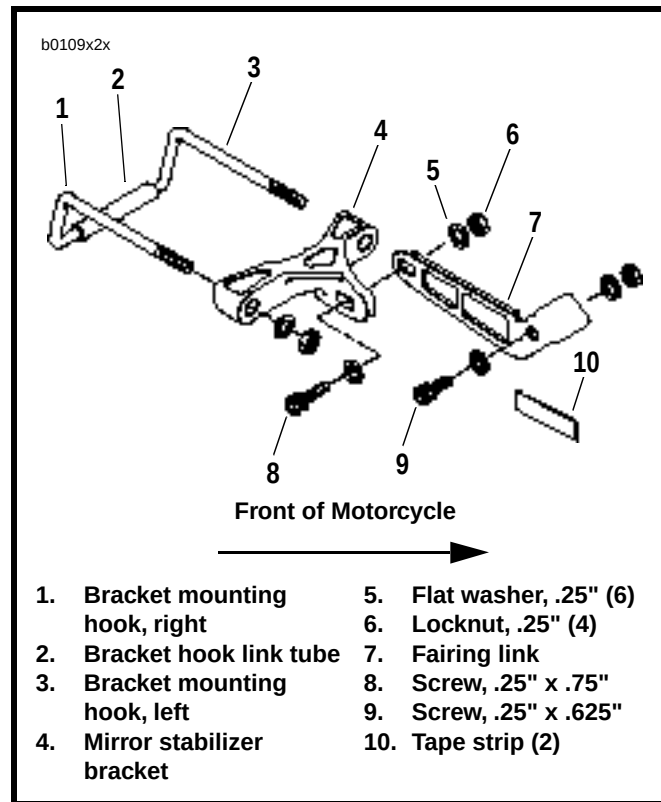
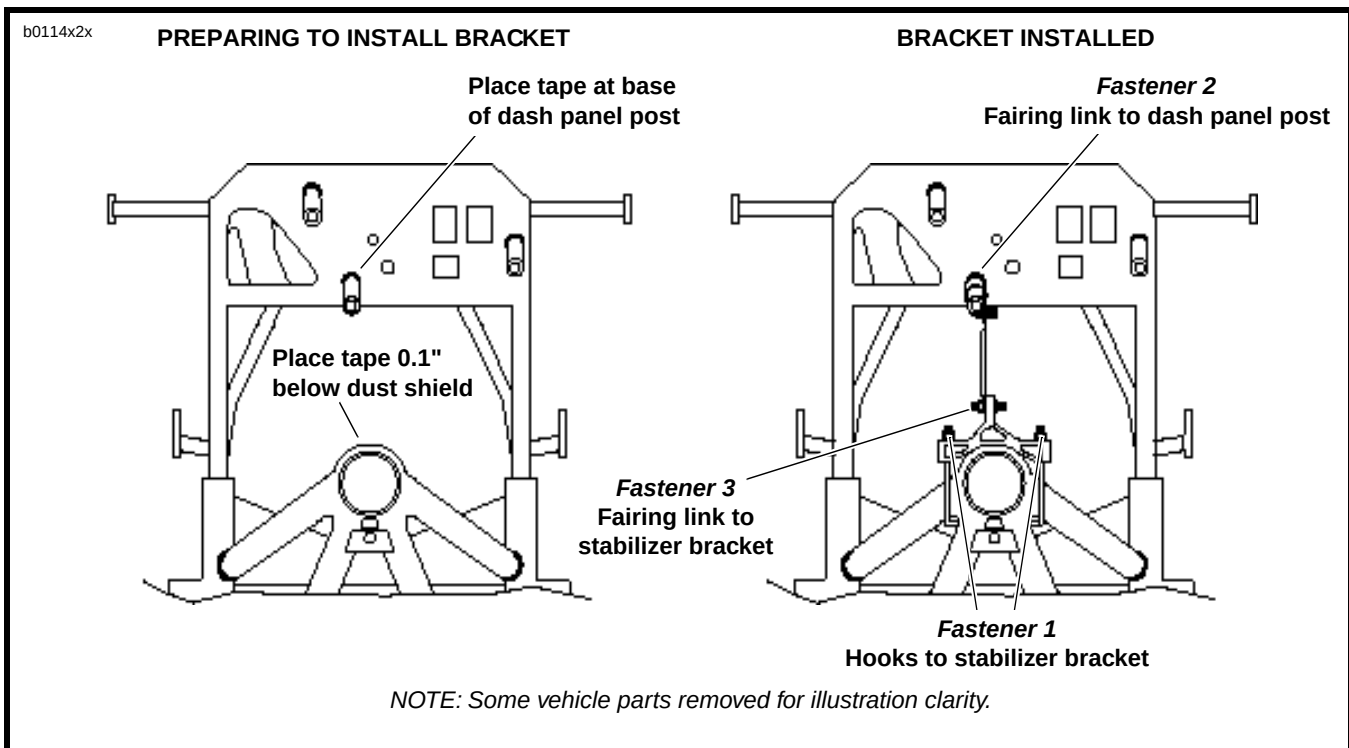

Figure 3. Kit Contents
Figure 2. Mirror/Instrument Panel Stabilizer Installation
4. See Figure 2. Remove any dirt or grease from front of steering stem and fairing mount. Install tape strips as shown.
5. See Figure 3. Place bracket hook link tube (2) on left bracket mounting hook (3). Slide link tube and left bracket mounting hook under motorcycle frame tubes as shown in Figure 2.
6. Install right bracket mounting hook (1) to complete assembly. Do not pinch fuel tank vent hose.
7. Place mirror stabilizer bracket (4) over right and left bracket mounting hooks (1, 3). Loosely install one flat washer (5) and locknut (6) on each side. Do not tighten at this time.
8. Loosely attach fairing link (7) to dash panel mounting post with screw (9), two flat washers (5) and locknut (6).
10. Fastener tightness depends upon the Vehicle Identification Number (V.I.N.) found on motorcycle frame. Torque fasteners according to Table 1 specifications. Tighten in order shown in Figure 2.
2. See Figure 2. Remove any dirt or grease from front of steering stem and fairing mount. Install tape strips as shown.
3. See Figure 3. Place bracket hook link tube (2) on left bracket mounting hook (3). Slide link tube and left bracket mounting hook under motorcycle frame tubes as shown in Figure 2.
4. Install right bracket mounting hook (1) to complete assembly. Do not pinch fuel tank vent hose.
V.I.N. Number	Fastener Location as Shown in Figure 2
12. Stabilizer fastener tightness depends upon the Vehicle Identification Number (V.I.N.) found on motorcycle frame. Torque fasteners according to Table 1 specifications. Tighten in order shown in Figure 2.